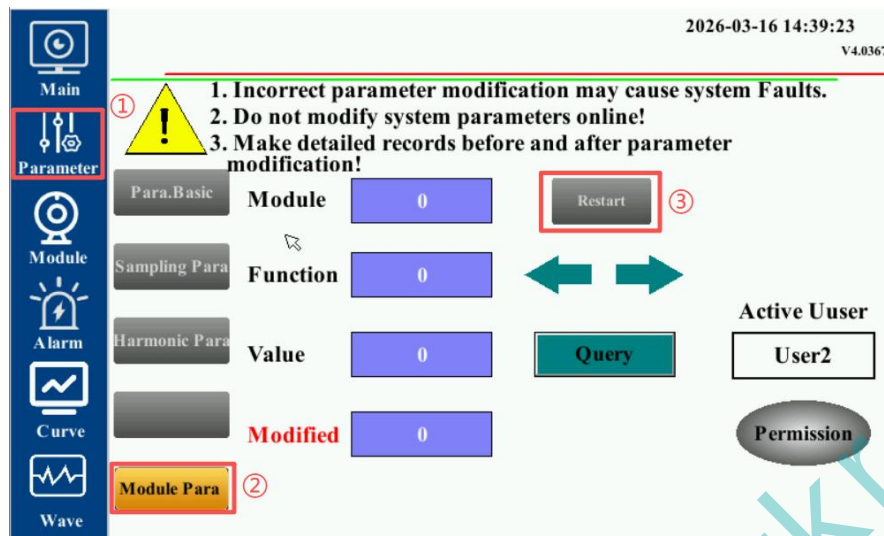

Figure 7.25: Touchscreen Restart Interface
- 2) If you have already entered the main interface, please locate and click "Parameters" in the title bar on the right side. After entering the password (Password: 123), locate and click "Debug Parameters" within the interface's title bar. In the displayed Debug Parameters interface, find the "Restart" button (as shown in Figure 7.25); please click "Restart" and repeat the previous operation of continuously pressing and holding the screen.